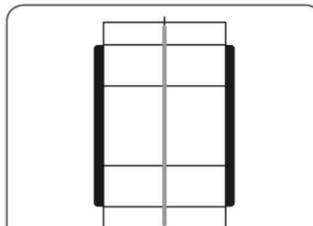

Fig 15 Pulleys perfectly aligned
- 6.3. Elimination of parallel misalignment: Move one of the pulleys on its shaft unit the laser line exactly matches the three reference lines (as per figure 15).